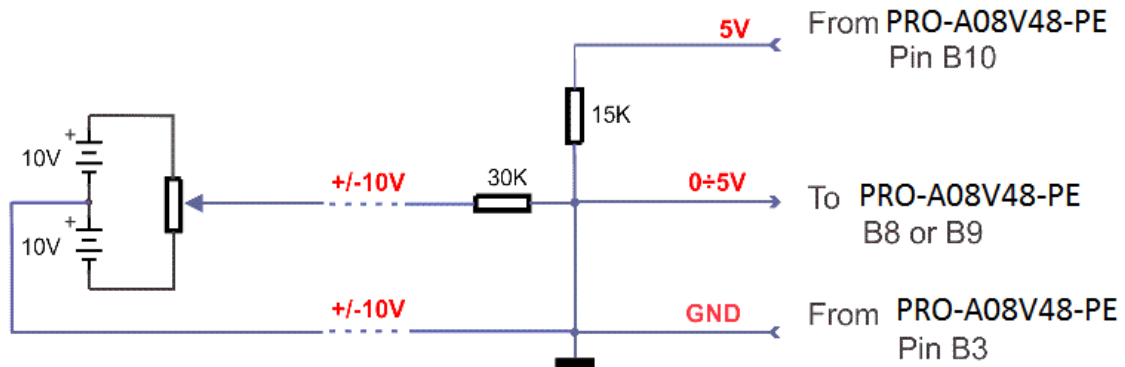

Figure 3.14. +/-10V to 0-5V adapter
**Remark:** Default input range for analog inputs is 0÷5 V for REF and FBDK. For a +/-10 V range, see Figure 3.14.